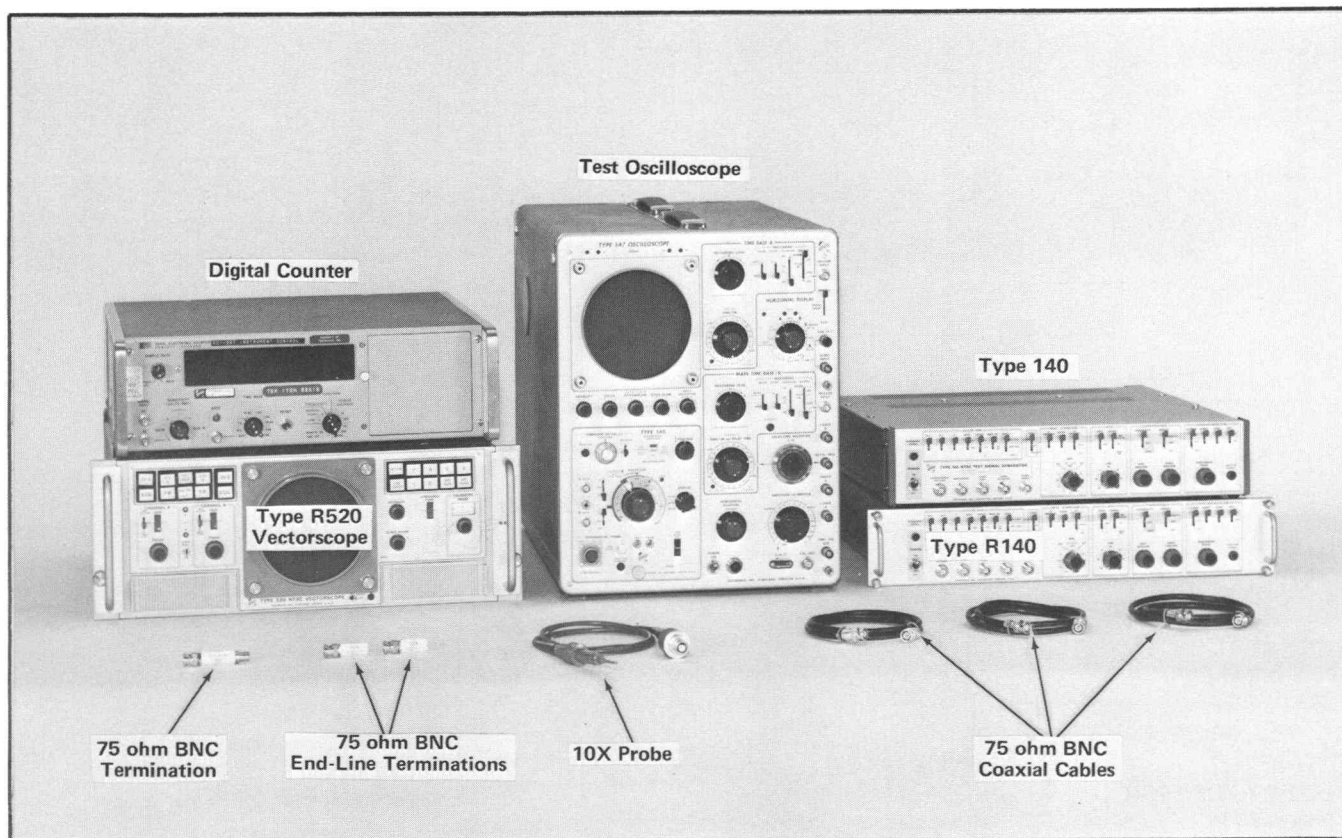

Fig. 5-3. Test equipment required for steps 3 through 6.
- a. Test equipment is shown in Fig. 5-3.